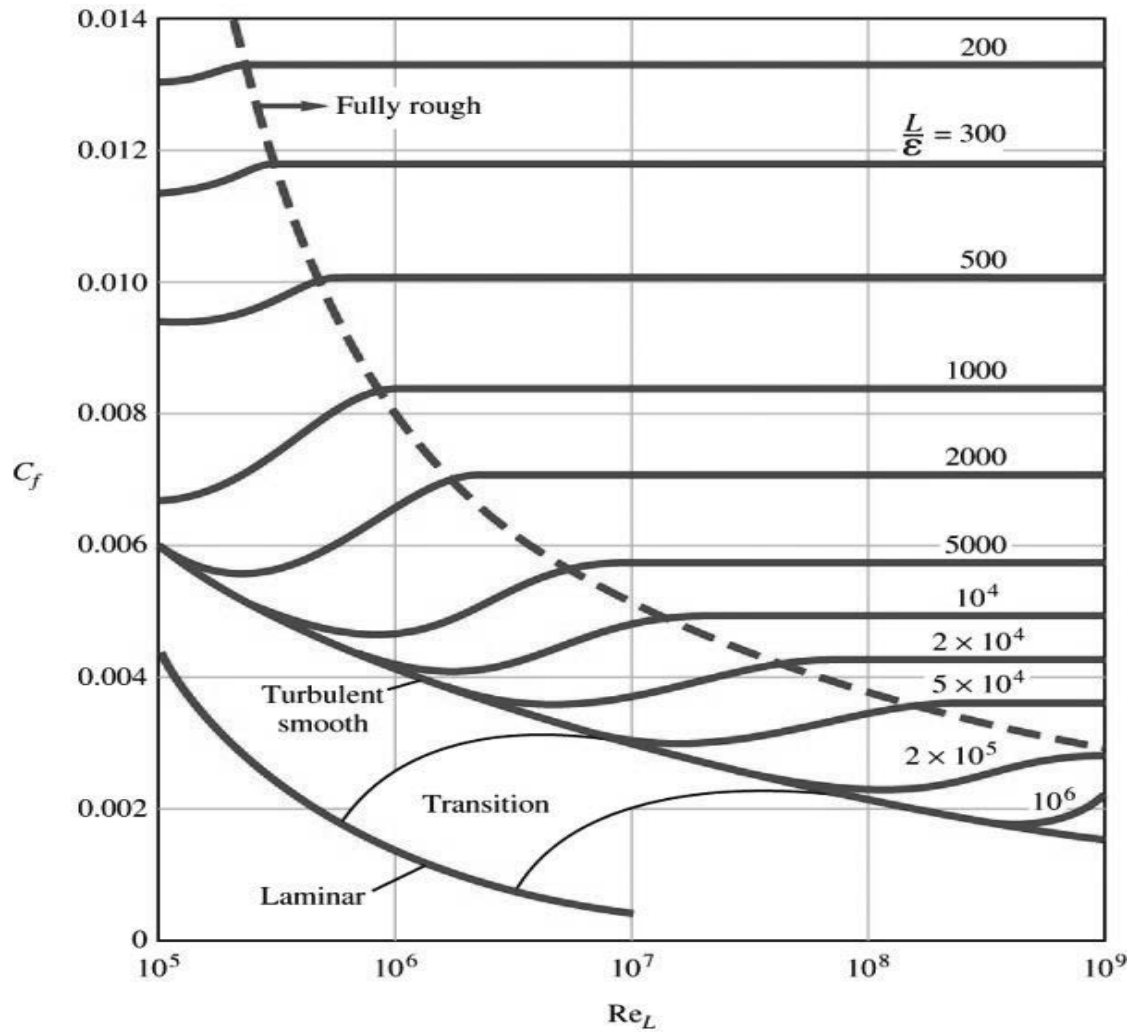

Figure E3. Average friction coefficient for flow over smooth and rough flat plates, White (1999)
The average friction coefficient over the whole plate C_f is a function of the surface roughness for the turbulent boundary layer and also a function of the Reynolds number based on the length of the plate Re_L , see figure E3 in Exercise 8. This friction coefficient can be determined in Flow Simulation by using the final value of the global goal, the X-component of the Shear Force F_f and dividing it by the dynamic pressure times the area A in the X-Z plane of the computational domain related to the flat plate, see figure 2.28a) for the size of the computational domain.
- 2.8 Use different fluids, surface roughness, free stream velocities and length of the computational domain to compare the average friction coefficient over the entire flat plate with figure E3.